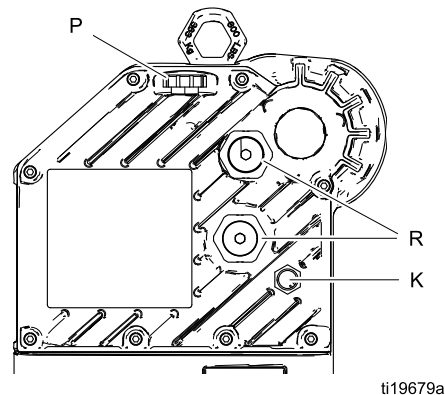

Figure 8 Sightglass and Oil Fill Cap
4. Loosen the coupling nut (11) and remove the collars (10). See Fig. 8.
5. Remove the coupling nut from the piston rod (R).
6. Unscrew the locknuts (8) from the tie rods (6).
7. Separate the motor (3) and lower (7).
1. Assemble the coupling nut (11) to the piston rod (R). See Fig. 8.
2. Orient the lower (7) to the motor (3). Position the lower (7) on the tie rods (6). Lubricate the threads of the tie rods (6).
3. Screw the tie rod locknuts (8) onto the tie rods (6). Tighten the locknuts (8) and torque to 50-60 ft-lb (68-81 N•m).
4. Insert the collars (10) into the coupling nut (11). Tighten the coupling nut (11) onto the coupling adapter (9) and torque to 90-100 ft-lb (122-135 N•m).